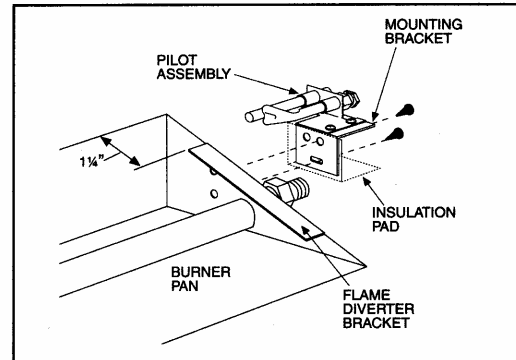

Figure 4
- Attach the pilot assembly mounting bracket (Item 8) to the pilot assembly (Item 4) with #10 screws (Item 7) (Figure 4 - Note: Bracket, Insulation Pad and pilot assembly are shown attached).